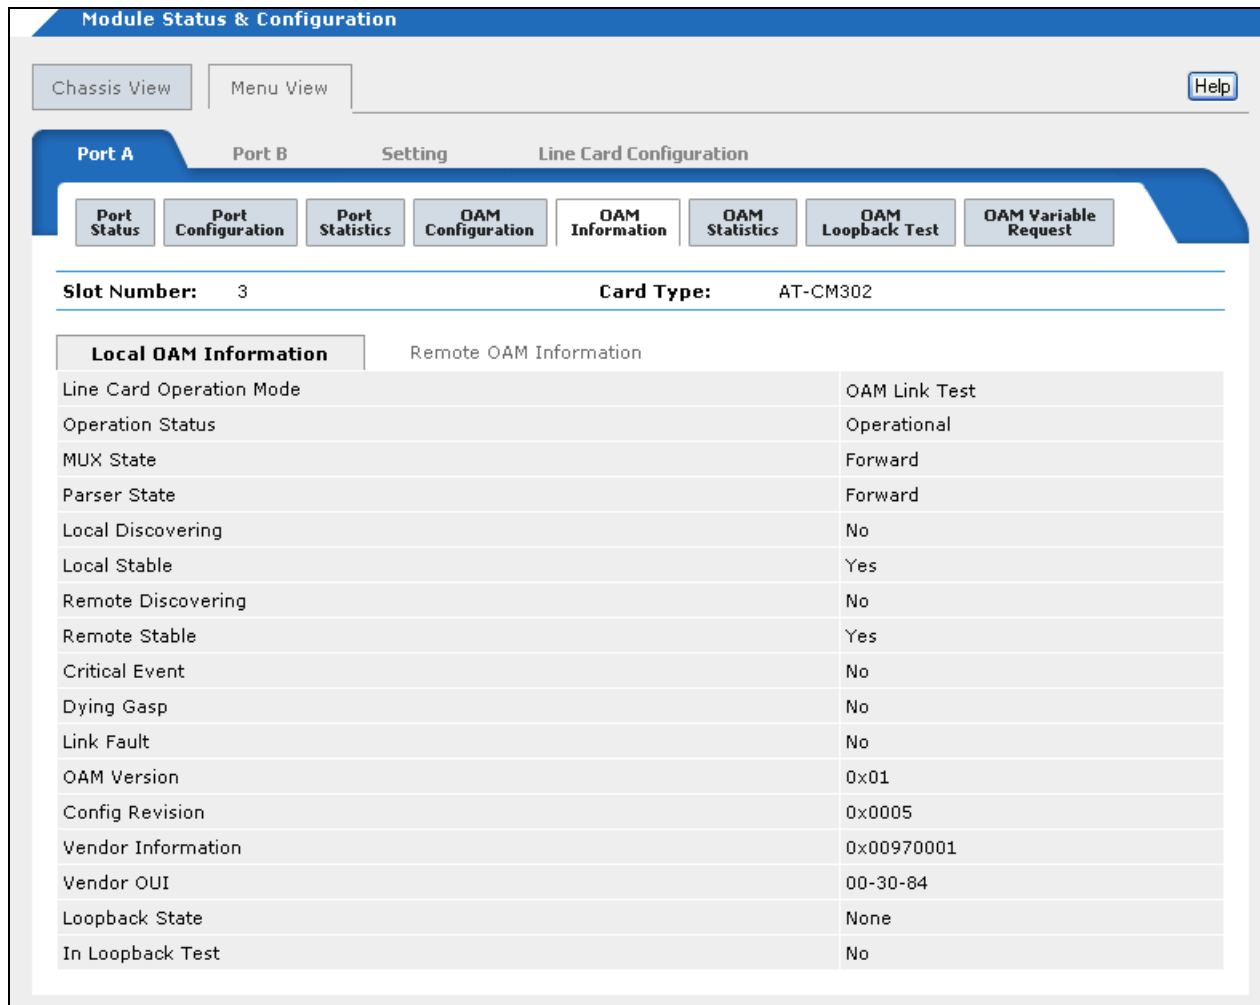

Figure 113. OAM Local Information Tab
4. If the **Local OAM Information** tab is not selected, select it. The window in Figure 113.
4. Click the **OAM Information** tab to display the tab in Figure 113 on page 270.